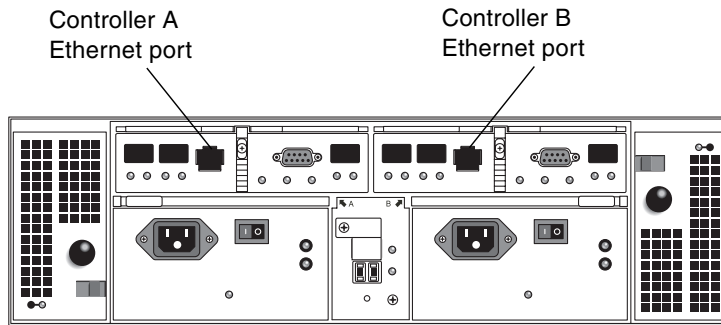

FIGURE 4-1 Ethernet Ports for Controller A and Controller B
1. Locate the Ethernet ports for Controller A and Controller B at the back of the controller tray (FIGURE 4-1).